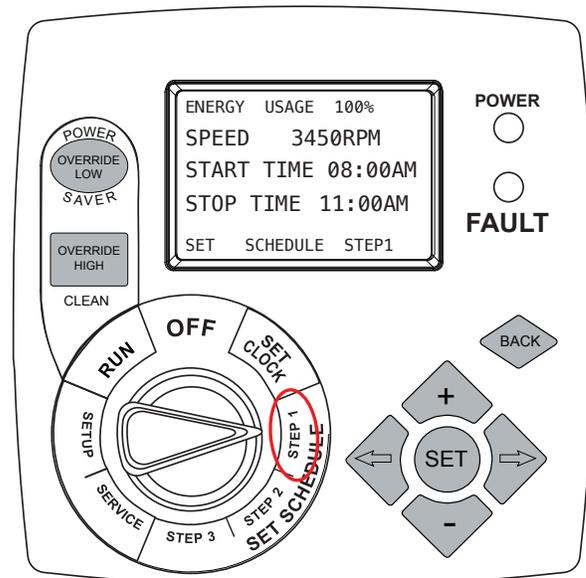

Figure 7 - Set Schedule - STEP 1
1. Turn the Selector Knob to SET SCHEDULE, STEP 1. (See Figure 7)